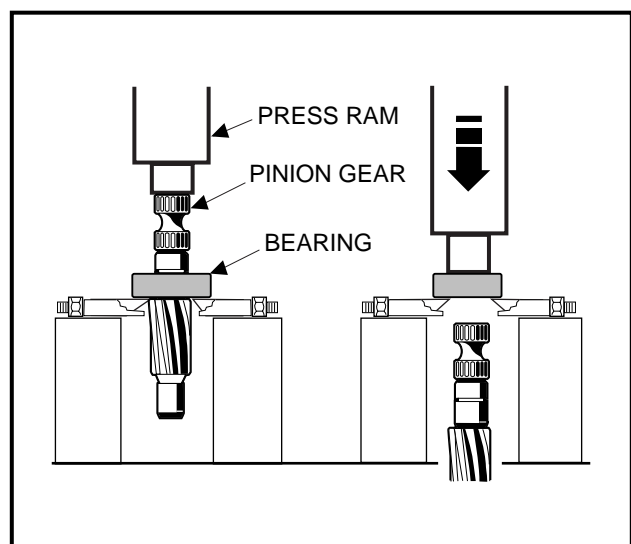

Figure 7-10 Remove Bearing from Pinion
11. If the ball bearing (9) has been damaged, remove the external snap ring (10) **(Figure 7-12, Page 7-11)** and press the bearing off **(Figure 7-10, Page 7-9)**.